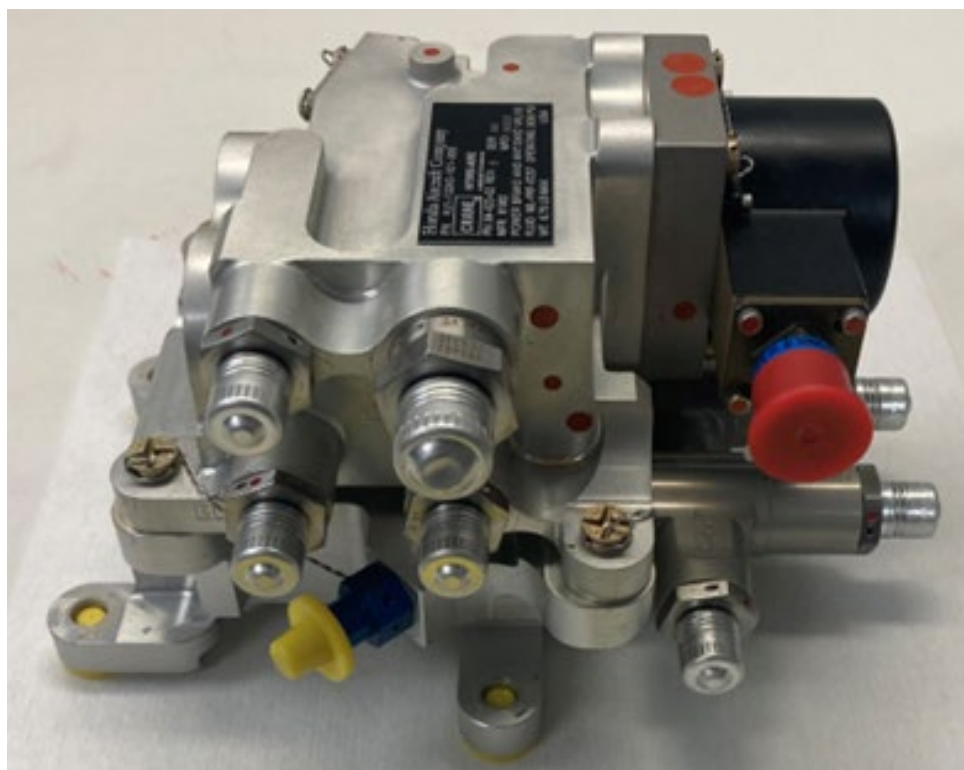
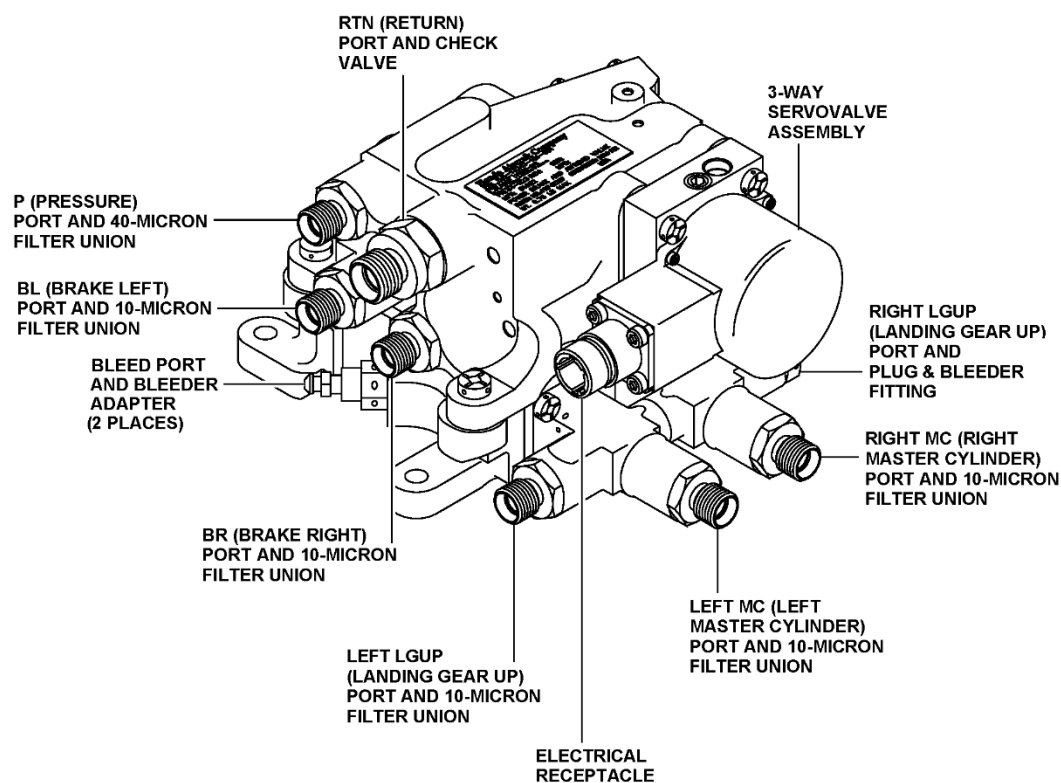

Figure 1. Photo of an exemplar power brake and antiskid valve assembly.
Figure 2. Figure of the power brake and antiskid valve assembly with the ports and components labeled. (Courtesy of Crane Aerospace & Electronics)
The power brake and antiskid valve assembly (see Figure 1) was recovered from the wreckage and tested. Functional testing of the valve assembly was performed at the Honda Aircraft Company and at Crane Aerospace. The test results in one area were inconsistent leading to further examination of the valve assembly. The valve was sent to Varex Imaging for computed tomography (CT) scanning to document its internal condition and look for any indications of contamination or debris inside the valve. A figure of the valve with its ports and components labeled is provided in Figure 2.